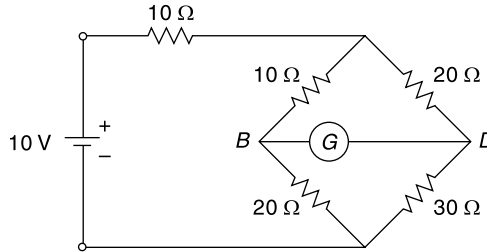

Fig. 4.131 Circuit of Ex. 4.100
4.100 Determine the Thevenin's equivalent of the bridge network shown in Fig. 4.131 as seen from the galvanometer terminals B and D and hence determine the galvanometer current when $R_G = 50 \Omega$.